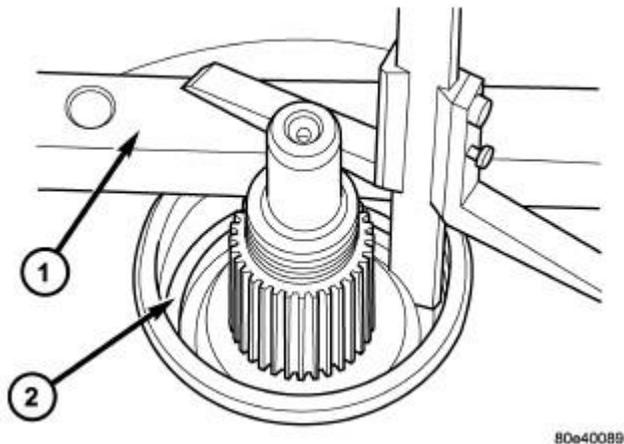

Fig. 78: Measuring From Transmission Housing To Rear Bearing Contact Surface
23. Using a depth gauge, measure from the Gauge Bar (special tool #6311, Gauge Bar) (1) to the contact surface of the output shaft bearing (2) in the transmission housing. Refer to **Fig. 78**.